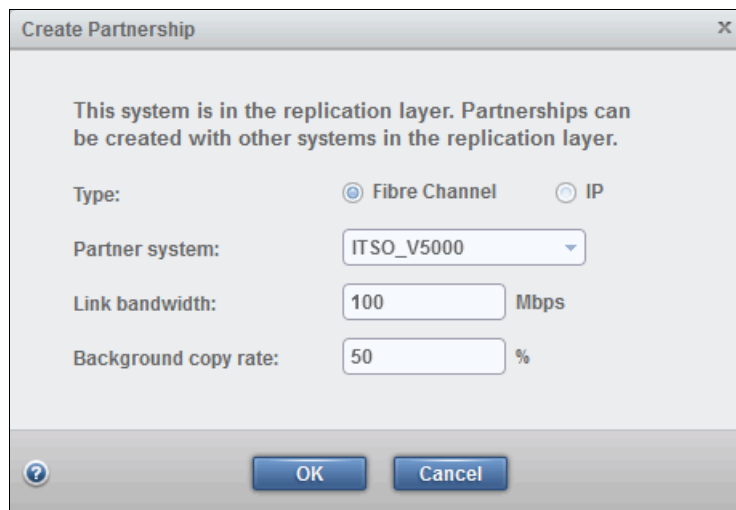

Figure 10-88 Select the remote storage system for the new partnership, and configure partnership properties
5. If the Storwize V3700 can see a candidate system, create your partnership by selecting the appropriate remote storage system from the **Partner system** drop-down, as shown in Figure 10-88, and defining the available bandwidth and the background copy percentage between both systems.